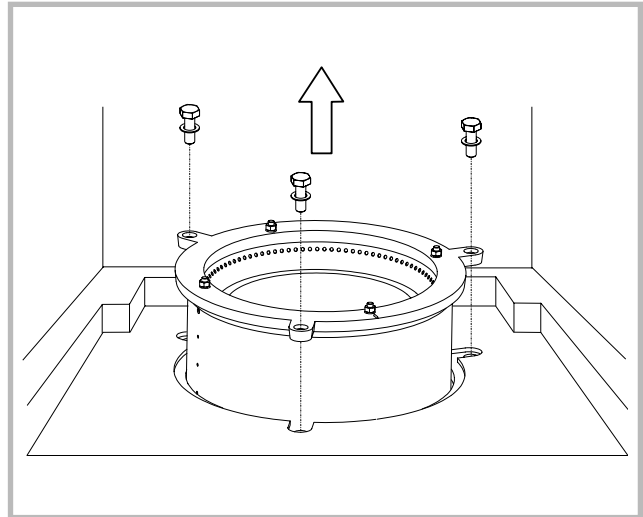

Figure 14 - Removing the burner
- Disconnect the feed line from the de-scaler nut, unscrew the burner fixing nuts (figure 14).